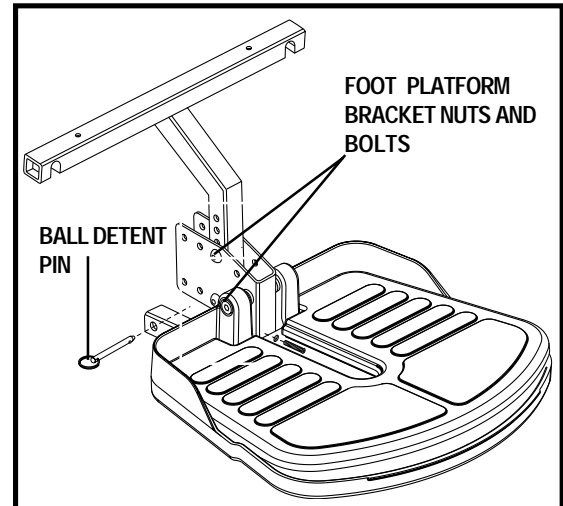

Figure 17. Foot Platform Height Adjustment
1. Remove the nuts and bolts from the foot platform bracket. See figure 17.
3. Locate the ball detent pin at the base of the footrest bracket and remove. See figure 17.